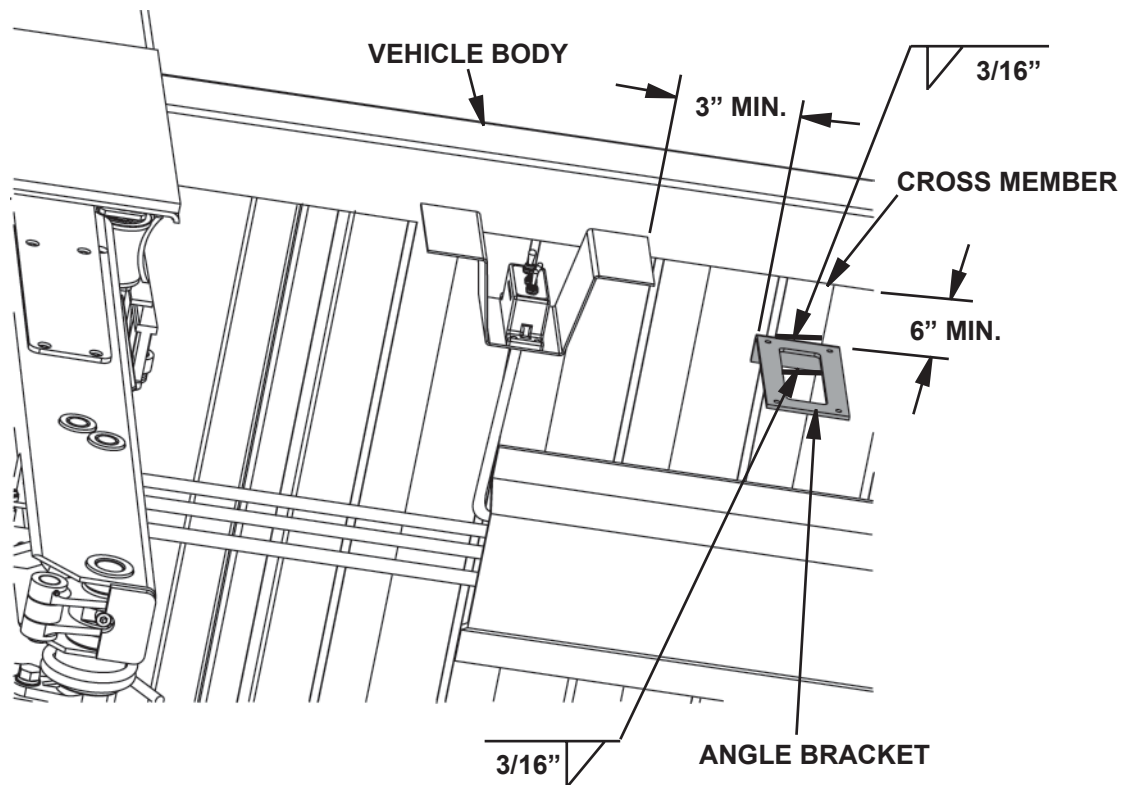

FIG. 5-1
2. Weld angle bracket (Kit item) to cross member under vehicle body as shown in **FIG. 5-1**.